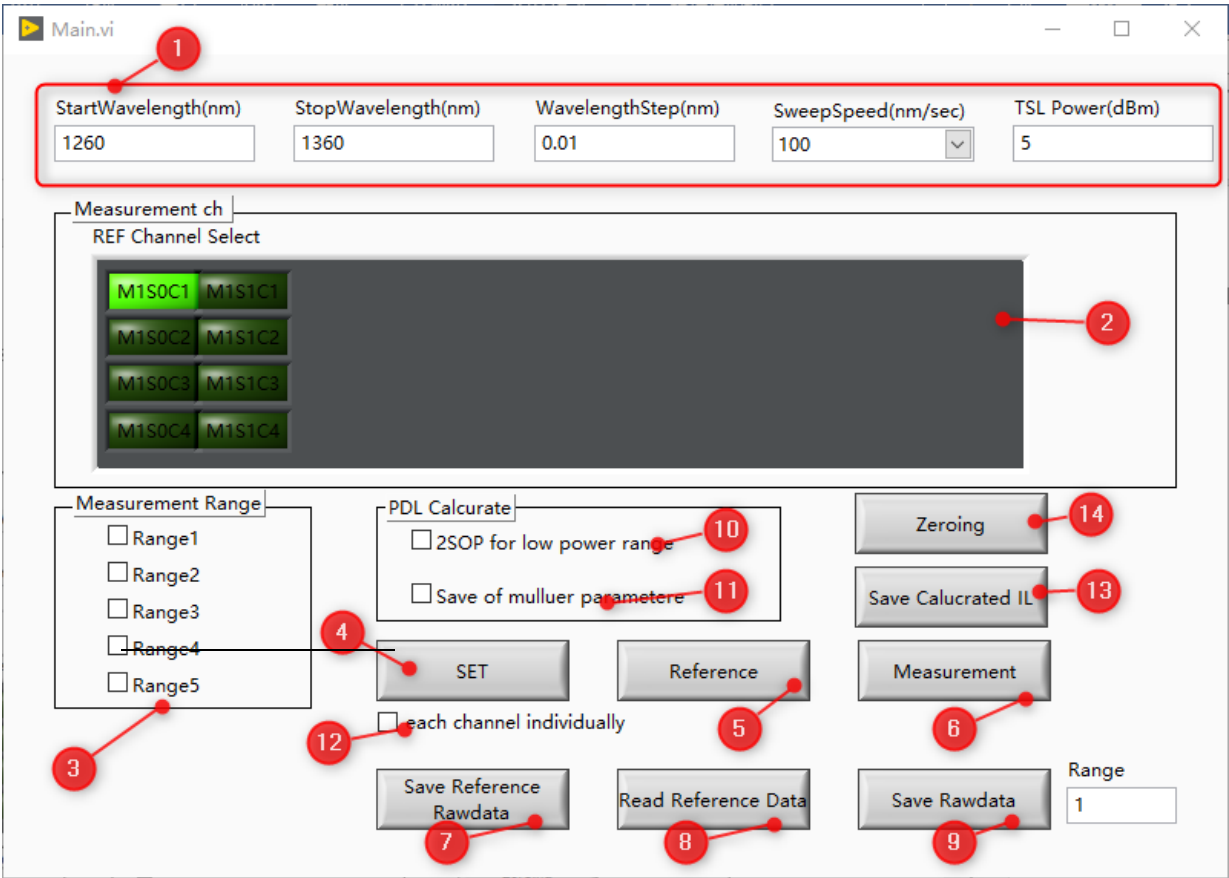

Figure 3. PDL Example Software Window
- After setting up each measuring instrument in Figure 2, press the "Connect" button and the STS PDL Demo software interface is shown in Figure 3.